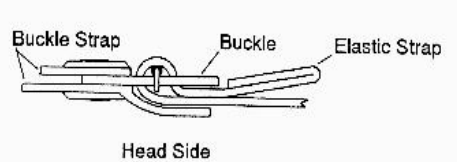

Figure 2. Elastic Adjustment Straps Routing
5. Route the elastic adjustment straps through the bottom facepiece buckles as shown in Figure 2.